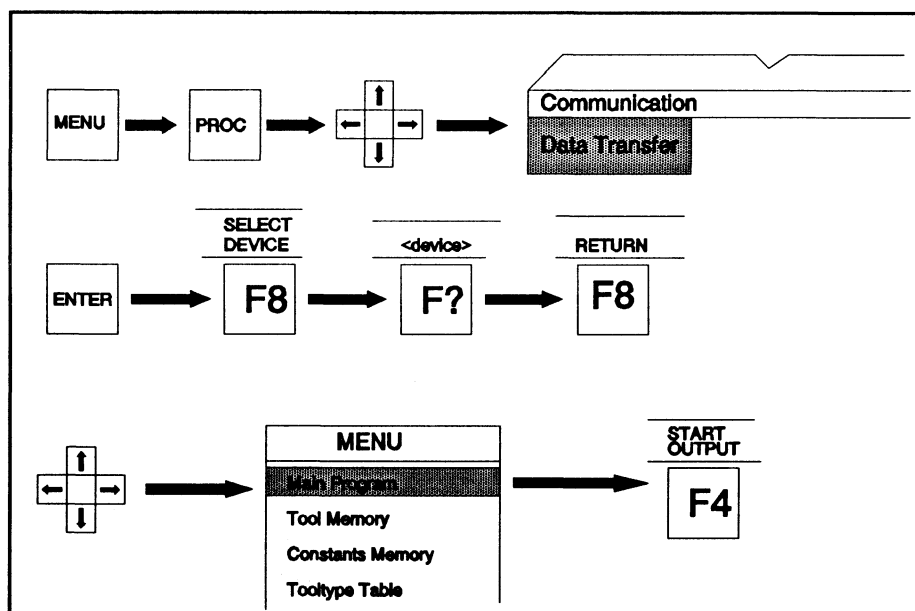

Figure 10.1: Sending Memories
Sending data passes the contents of the selected memory to an external device for storage. To transfer data you must display the CONTROL screen. The sequence given in Figure 10.1 below transfers just the cycle program to the external device.
- To transfer the contents of individual memories, highlight the memory and follow the sequence in Figure 10.1 below. Memories which can be transferred are: